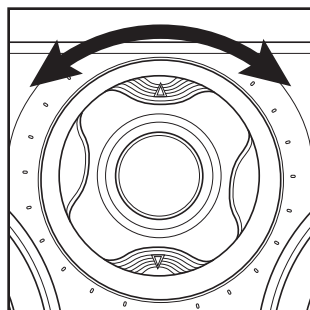

Figure 19. Rotating the HDLCR's tweeter.
2. Rotate the tweeter housing either clockwise or counter-clockwise as required. The mechanism is indexed at equal intervals so that speakers in a pair can be adjusted equally. Simply count the number of “clicks” as the first tweeter is adjusted. Repeat the process for the second speaker, rotating the tweeter the same number of “clicks” in the opposite direction, as shown in **Figure 19**.